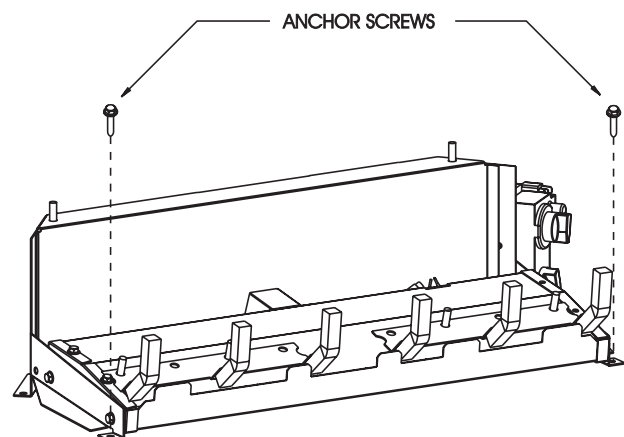

Figure 10
Assembly Procedure: (Figure 10)
2. An anchor hole is provided in the two bottom side members of the grate frame. After centering the grate correctly, mark the hole positions on the fireplace/firebox floor. Drill two (2) 5/32" diameter holes approximately 1-1/2" deep for masonry screws or 1/8" hole for sheet metal screws.
3. Anchor the grate to the fireplace/firebox floor using the screws provided. Refer to Figure 10.